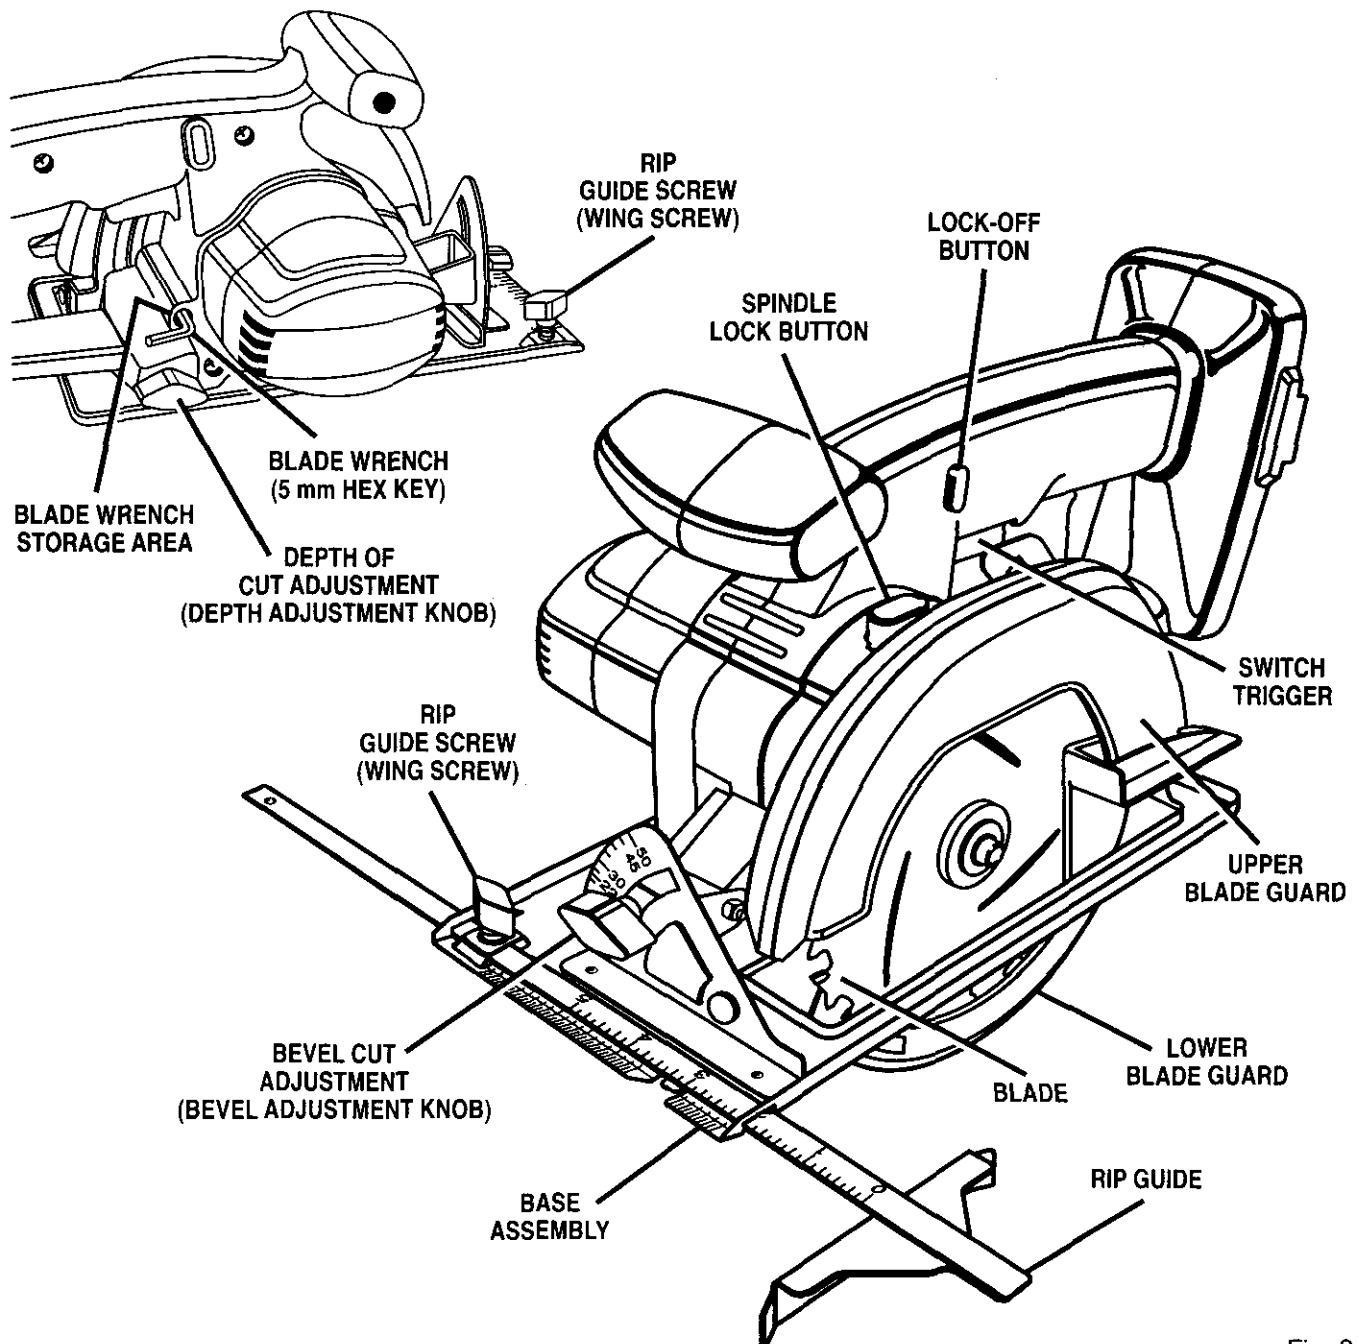

Fig. 3
See Figure 3.
- Remove blade wrench (5 mm hex key) from storage area. *See Figure 3.*
*See Figure 3.*